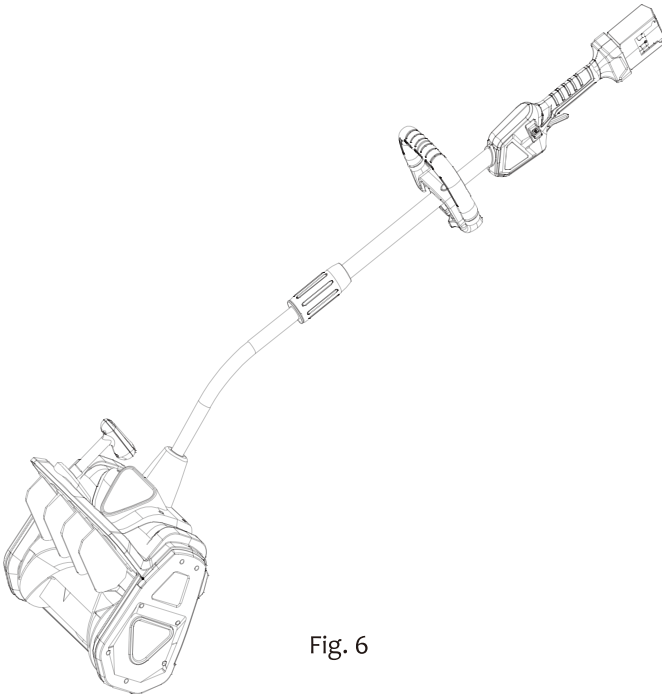

Fig. 6
2. Adjust the height of the handle to a safe and comfortable position, using the knob to secure it in place. (Fig.6)